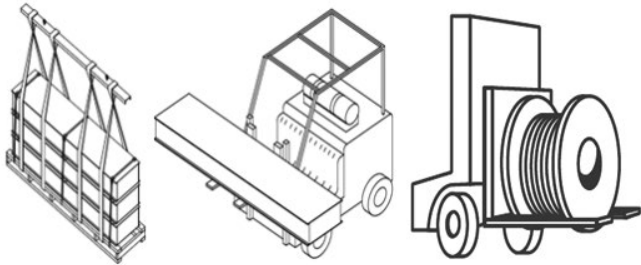

Figure 1. Proper handling cable sections & reels
1. To avoid personal injury, cable sections should not be lifted, carried or moved by hand. Appropriate mechanical means (shown on Figure 1) capable of safely handling the cable bus sections must be used.
2. Bus ends must not be used for lifting cable bus sections or fittings. Only lift the cable bus enclosure using support means, such as slings or lift truck forks which extends under the full width of the enclosure as shown on Figure 1.
3. If a fork or similar hoist is used, the cable bus enclosure must be properly positioned and secured on the forks to distribute its weight, as shown on Figure 1.
13. Reel handling must be accomplished so that equipment used is contacting both flanges of the reel and is not contacting the cable surface (protective wrap if used) at all times, as shown on **Figure 1**.